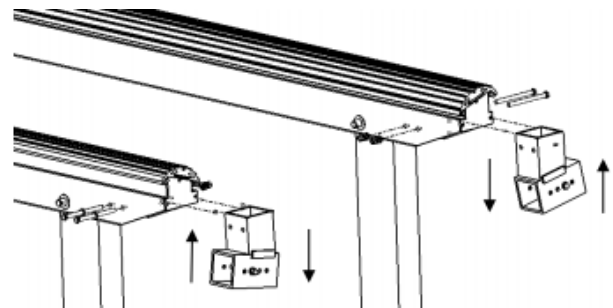

Figure 23
2. Align holes in Bunk support and Guide Pole Mounting Bracket, making sure the lower guide adjustment tube is angled upward toward the outside of the lift, and downward toward the inside of the lift as shown in Figure 23.